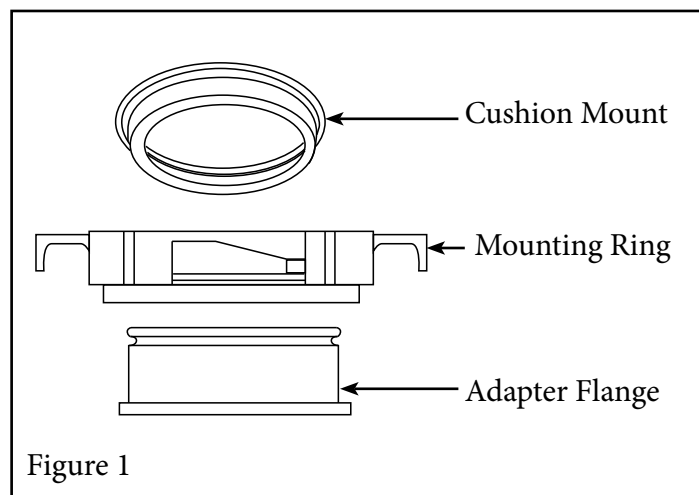

Figure 1
- Place adapter flange with the large flange side down on a flat surface. See Figure 1